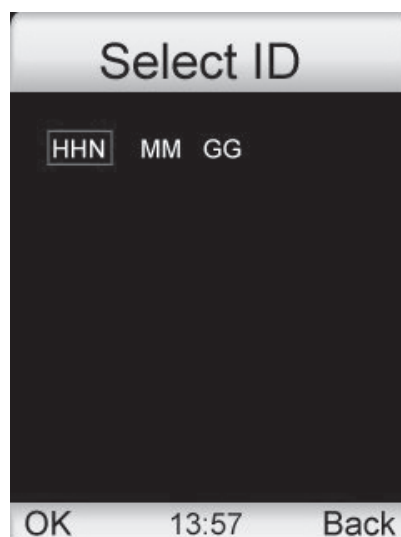

Figure 10. Select ID interface
- Move the choice bar to the "Memory Manager" item, then press the "right button" to enter "Select ID" interface as Figure 10. Select the patient ID that you want to delete, then press menu button to delete the patient ID and storage data.